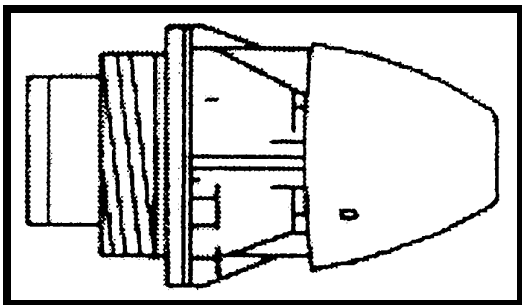
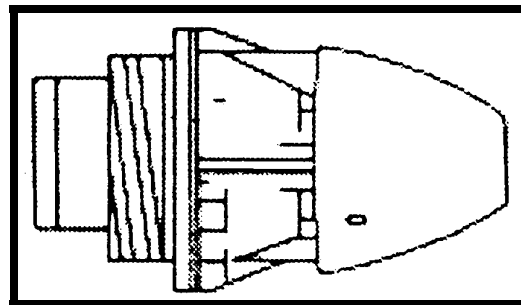

Figure 7-17. M734 multioption fuze.
Figure 7-18. M745 PD fuze.
c. **M734 Multioption Fuze** (Figure 7-17).
- (1) Functions: Proximity or impact.
- (2) Settings: PRX, NSB, IMP, or DLY.
- (3) Remarks: The fuze can be set by hand.
d. **M745 PD Fuze** (Figure 7-18).
- (1) Functions: Impact.
- (2) Settings: None.
- (3) Remarks: The fuze functions on impact with superquick action only. The markings (PRX, NSB, IIMP, and DLY) are dummy settings. Rotation of the fuze head does not alter the function mode.